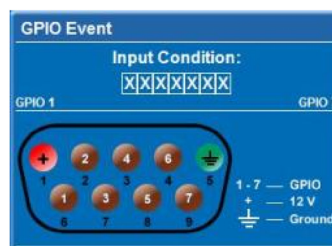

FIGURE 4-15 GPIO OUTPUT HELPER
- If a **GPIO** command string is needed, click the **GPIO Output Helper** button for instructions on how to create the command structure. **NOTES:** **1)** The **Output** field contains 7 blocks which refer to the 7 I/O pins on the GPIO connector. Pin 1 = +12V and Pin 5 = Ground. These are not included. **2)** Clicking a block toggles between H, L, and X. **3)** If the Pulse check box is selected, those I/O Pins defined will pulse high or low. See *Figure 4-15 GPIO Output Helper*. See *Appendix B*: for detailed information.